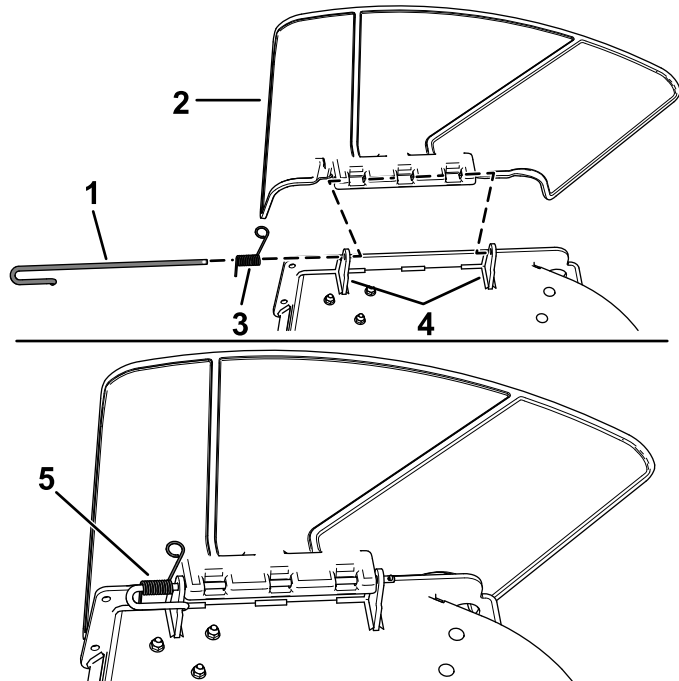

Figure 66
1. Disengage the spring from the notch in the deflector bracket and slide the rod out of the welded deck brackets, spring, and discharge deflector (Figure 66).